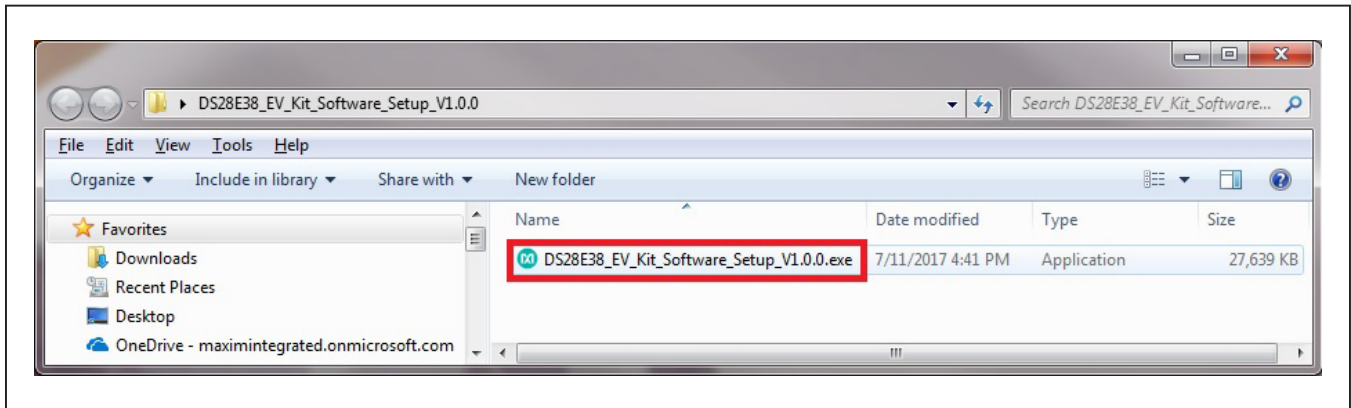

Figure 1. File Viewer
2) In a file viewer (Figure 1), double click on **DS28E38_EV_Kit_Software_Setup_V1.0.0.exe** to begin the installation.